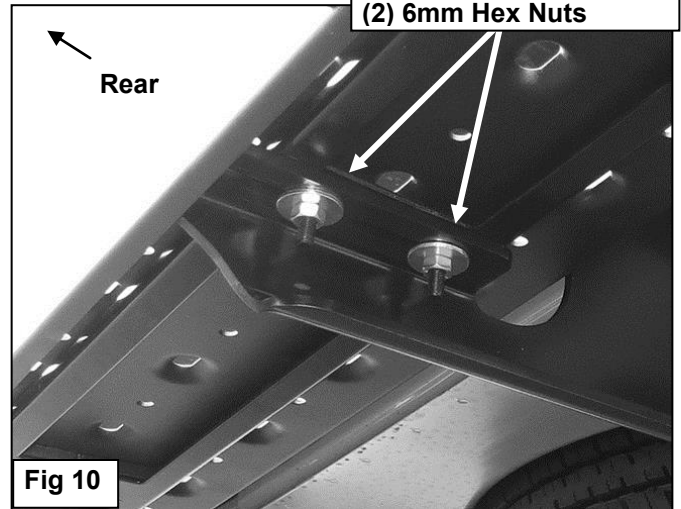

Fig 10
5. Carefully unwrap the Rear Step. Select (2) 6mm Double Bolt Plates. Hold the Rear Step up to the (2) previously installed Brackets to determine correct location for Bolt Plates. Slide the (2) Double Bolt Plates into the track in the bottom of the Rear Step, **(Figure 9)**. Attach the Rear Step with Bolt Plates to the top of the (2) Brackets with (4) 6mm Flat Washers, (4) 6mm Lock Washers and (4) 6mm Hex Nuts, **(Figure 10)**. Leave loose at this time.